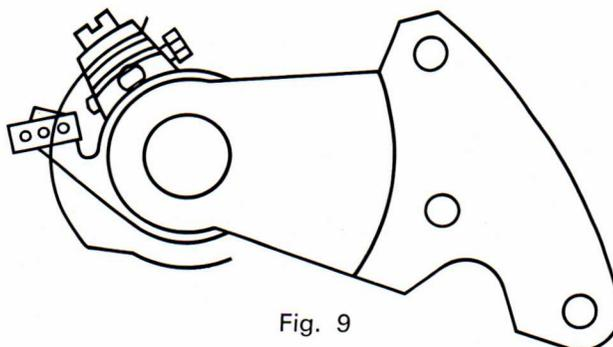

Fig. 9
1. Centre the hairspring between the pins; it should have little side-play. The two ruby pins are adjustable (Fig. 9): to reduce the play of the hairspring, turn the pin-holder clockwise with the ROLEX tool Ref. 2031 \* or with tweezers.